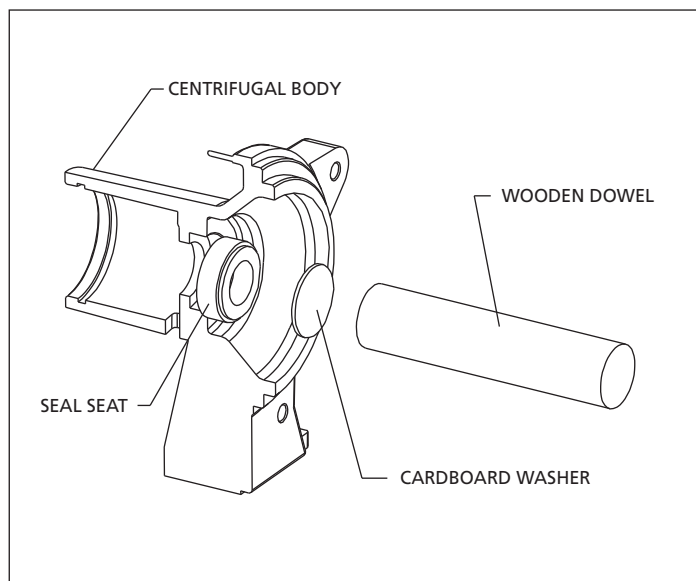

Figure 6 - Seal Seat Assembly
3. Wet the rubber portion of the new seal seat (part of Ref. No. 5) with a light coating of soapy water. While wearing clean gloves or using a clean light rag, press seal seat squarely into body recess (Ref. No. 4) Use the cardboard washer (usually supplied with new seal) to place over the polished ceramic surface and use a piece of pipe or dowel rod to press in firmly but gently (See figure 6). Avoid scratching the ceramic face, usually white.